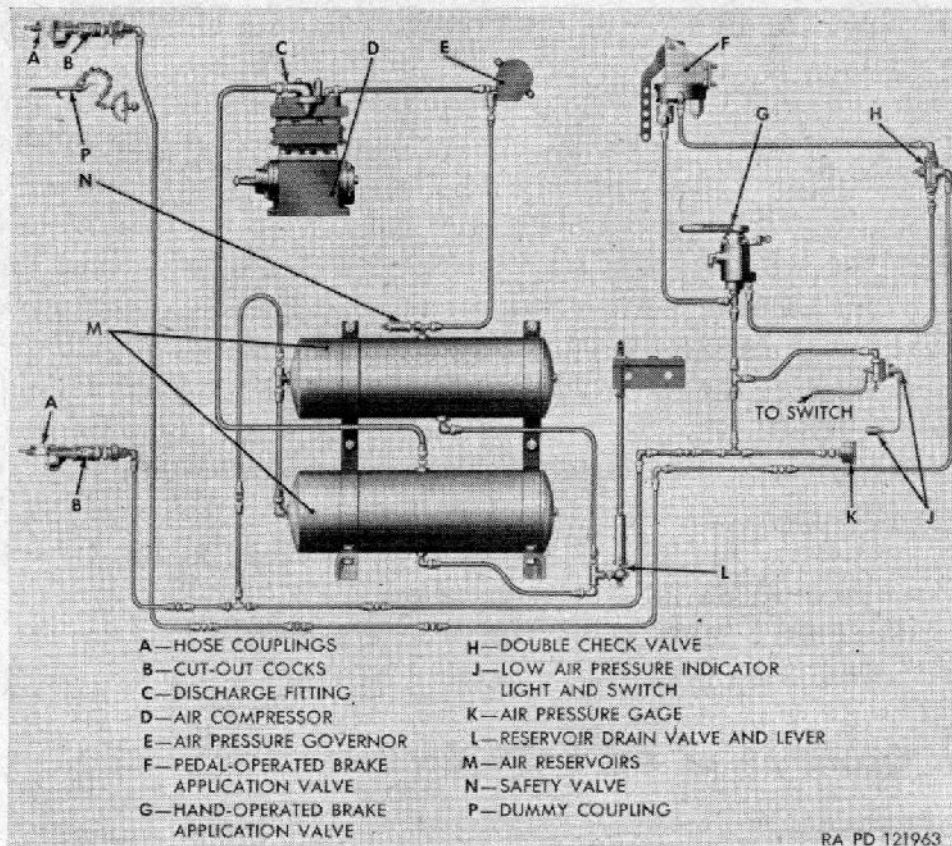
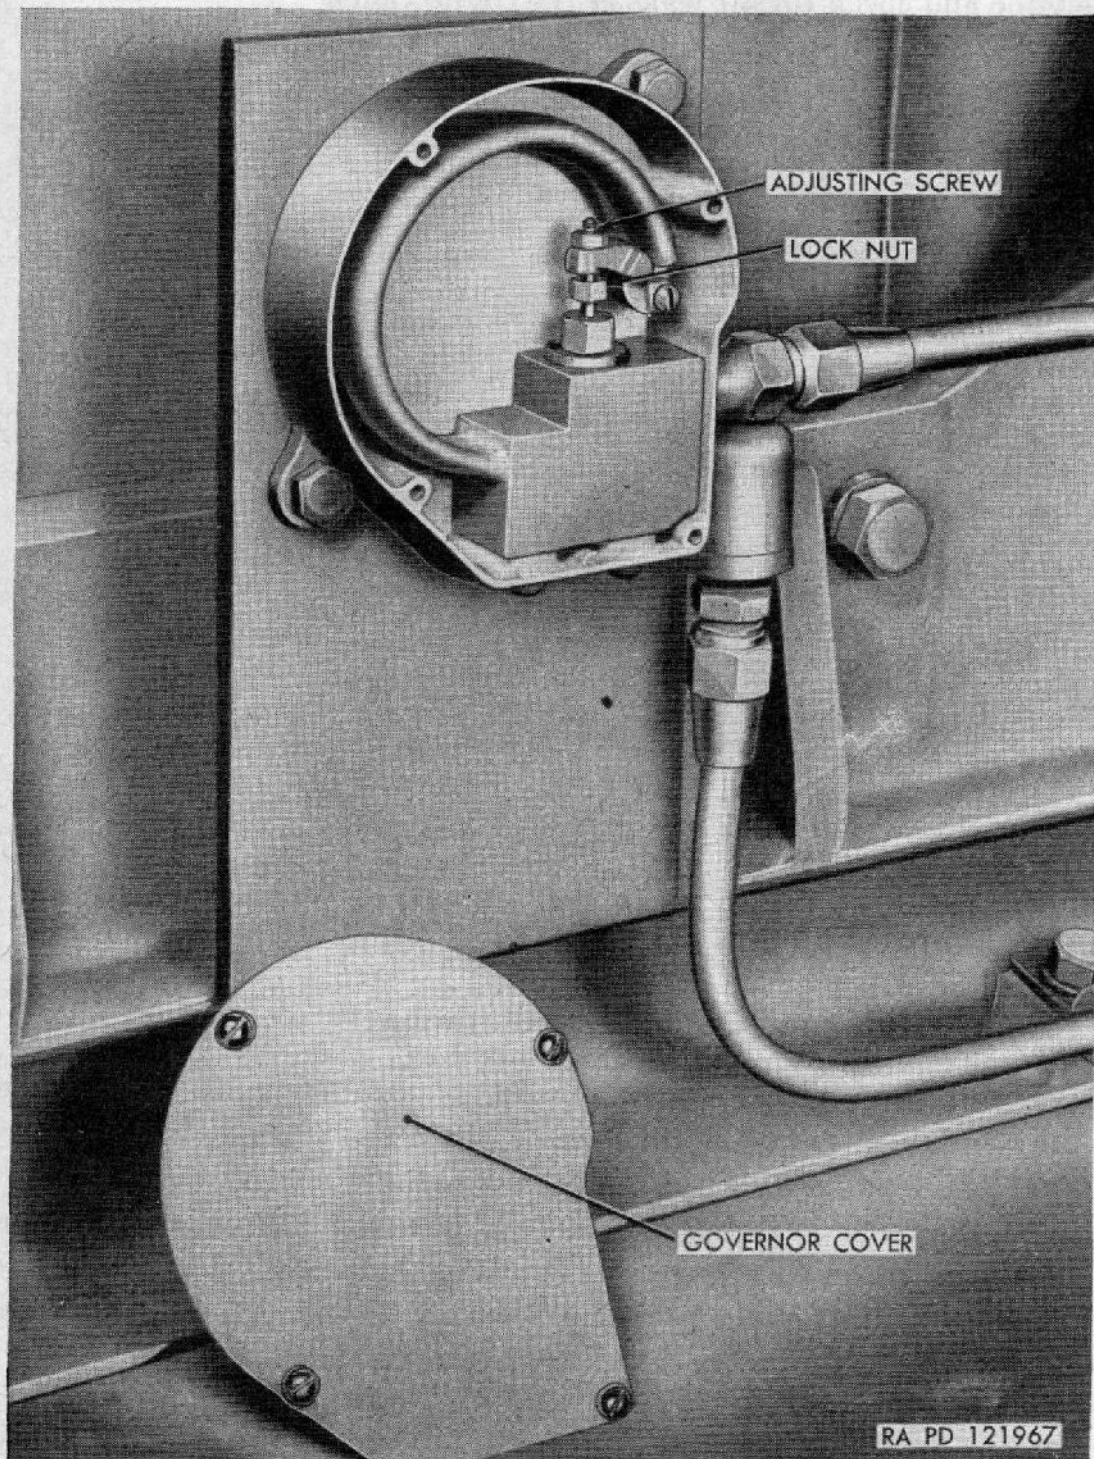

Figure 120. Diagram of air brake control system.
Figure 126. Air pressure governor.
c. Components of Air Brake Control System (fig. 120). The Bendix-Westinghouse air brake control system used on the tractor includes the following units:
- (1) An air compressor with a displacement of $7\frac{1}{4}$ cfm at a rated speed of 1,250 rpm (1,475 engine rpm).
- (2) Two 8 x 26-inch air storage reservoirs.
- (3) A compressor governor which controls the air pressure in the air reservoir.
- (4) A safety valve which protects the air system against excessive pressure.
- (5) An air pressure gage to indicate the air pressure in the reservoir.
- (6) Two brake application valves to control the air pressure delivered to the brakes of the trailing vehicle.
- (7) A double check valve to permit the use of two brake valves. This valve prevents air pressure from escaping through the exhaust valve of one brake valve when the other brake valve is used to apply the brakes.
a. Operation of System (fig. 120).
- (1) During normal operation, the air compressor (which is controlled by the compressor governor) keeps the air pressure in the air reservoir between 85 to 105 psi. The air reservoirs on tractor are connected to the air brake equipment on the towed vehicle through the emergency line. Therefore, the compressor keeps both air brake systems constantly charged. With both brake valves in released position, their inlet valves are closed, and air pressure from the reservoir is prevented from passing through them. As the driver depresses the brake pedal, the brake valve which is connected to the pedal is operated, its exhaust valve closes, and its inlet valve opens. Air then flows through this brake valve to the double check valve, and if necessary, moves the shuttle in the double check valve to a position which blocks off the line leading to the
voir drain cock or cut-out cock (fig. 120), and observe at what pressure the governor cuts in. To change governor setting, remove four screws from governor cover and remove cover (fig. 126). Loosen lock nut at top of adjusting screw (fig. 126). Turn adjusting screw clockwise to raise cut-in and cut-out pressure setting and turn adjusting screw counterclockwise to lower the pressure setting. After adjustment is made for proper operation of pressure, tighten lock nut and install cover with the four screws.